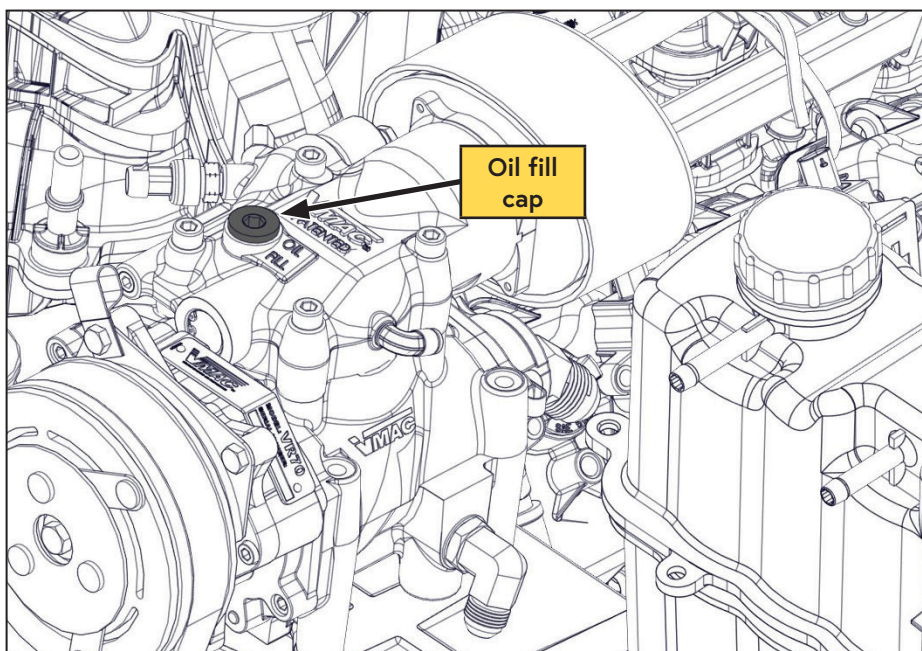

Figure 69 — Oil fill location
- ☐ Remove the cap from the oil-fill port located on the Inlet valve (Figure 69).